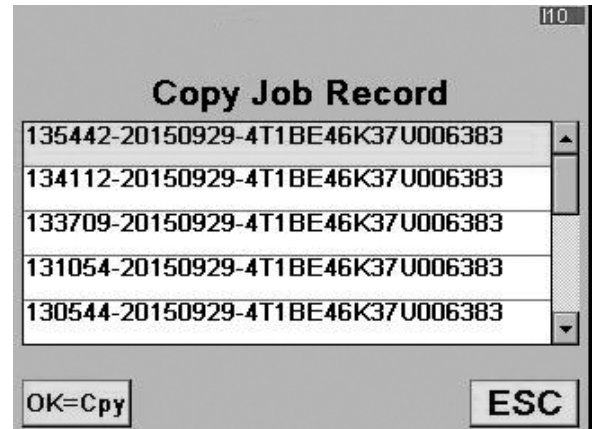

Figure 9
3. Select the job record to copy and press **OK**. See Figure 9.